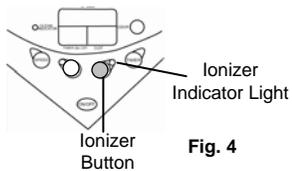

Fig. 4
2. To turn this feature "Off", depress the ionizer control button or remote button again. The ionizer "On/Off" indicator will no longer be illuminated. (Fig. 4)